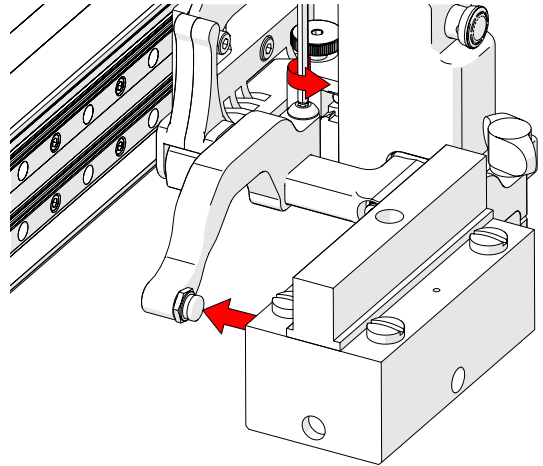

Fig. 91 - Adjust inner arm
4. Loosen the arm clamp screw (Fig. 91).